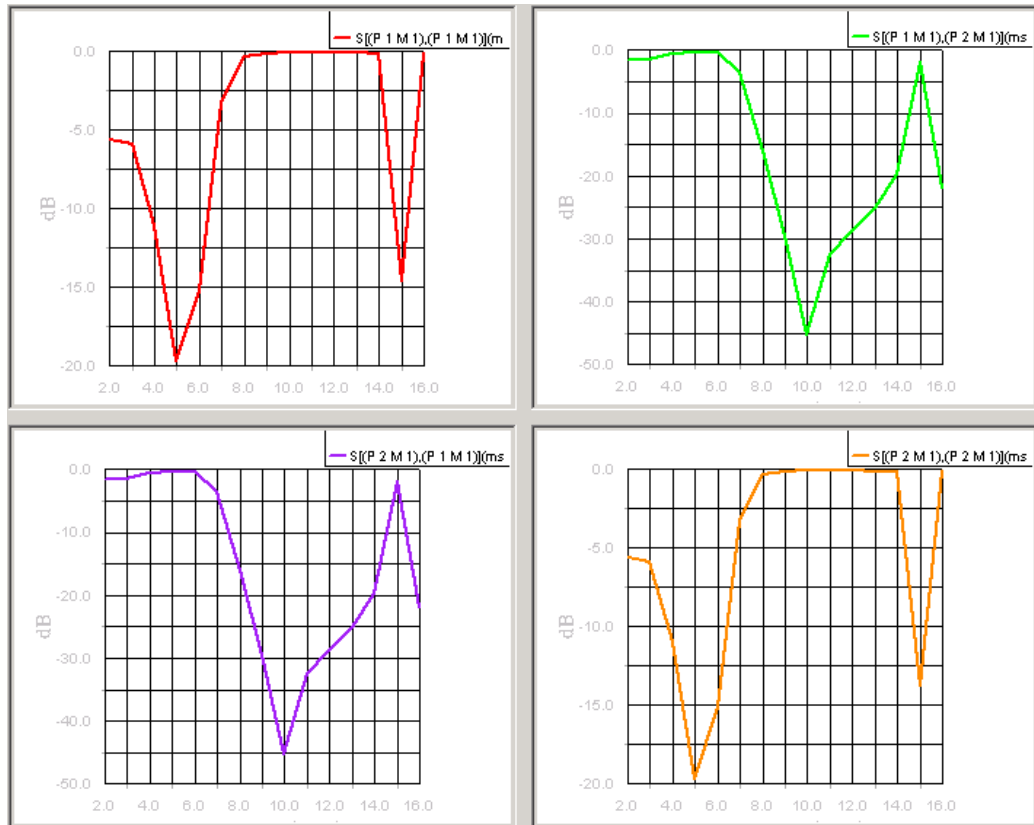

Figure 49 Tiled View of the Four S-Matrix Plots
- 12 When four plots have been set up, choose **Window > Tile** to display all four plots on the screen at one time, as in Figure 49.